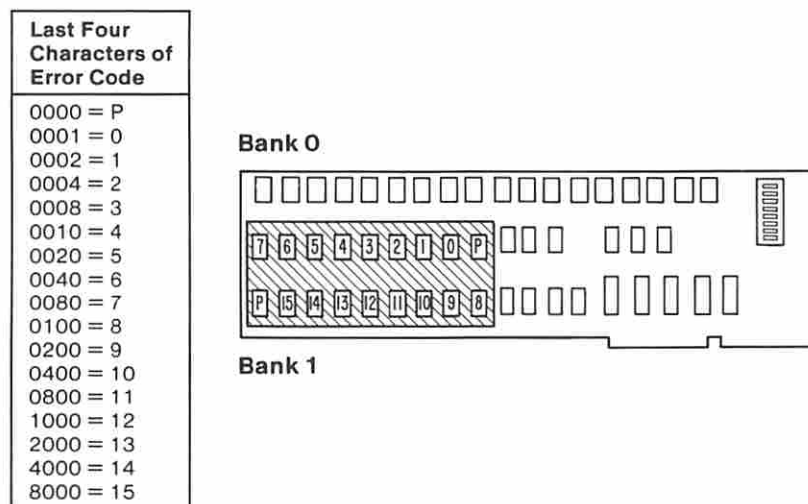

Figure 6. 128/640KB Memory Expansion Option
- Refer to Figure 6 and find the failing memory module for the error code.